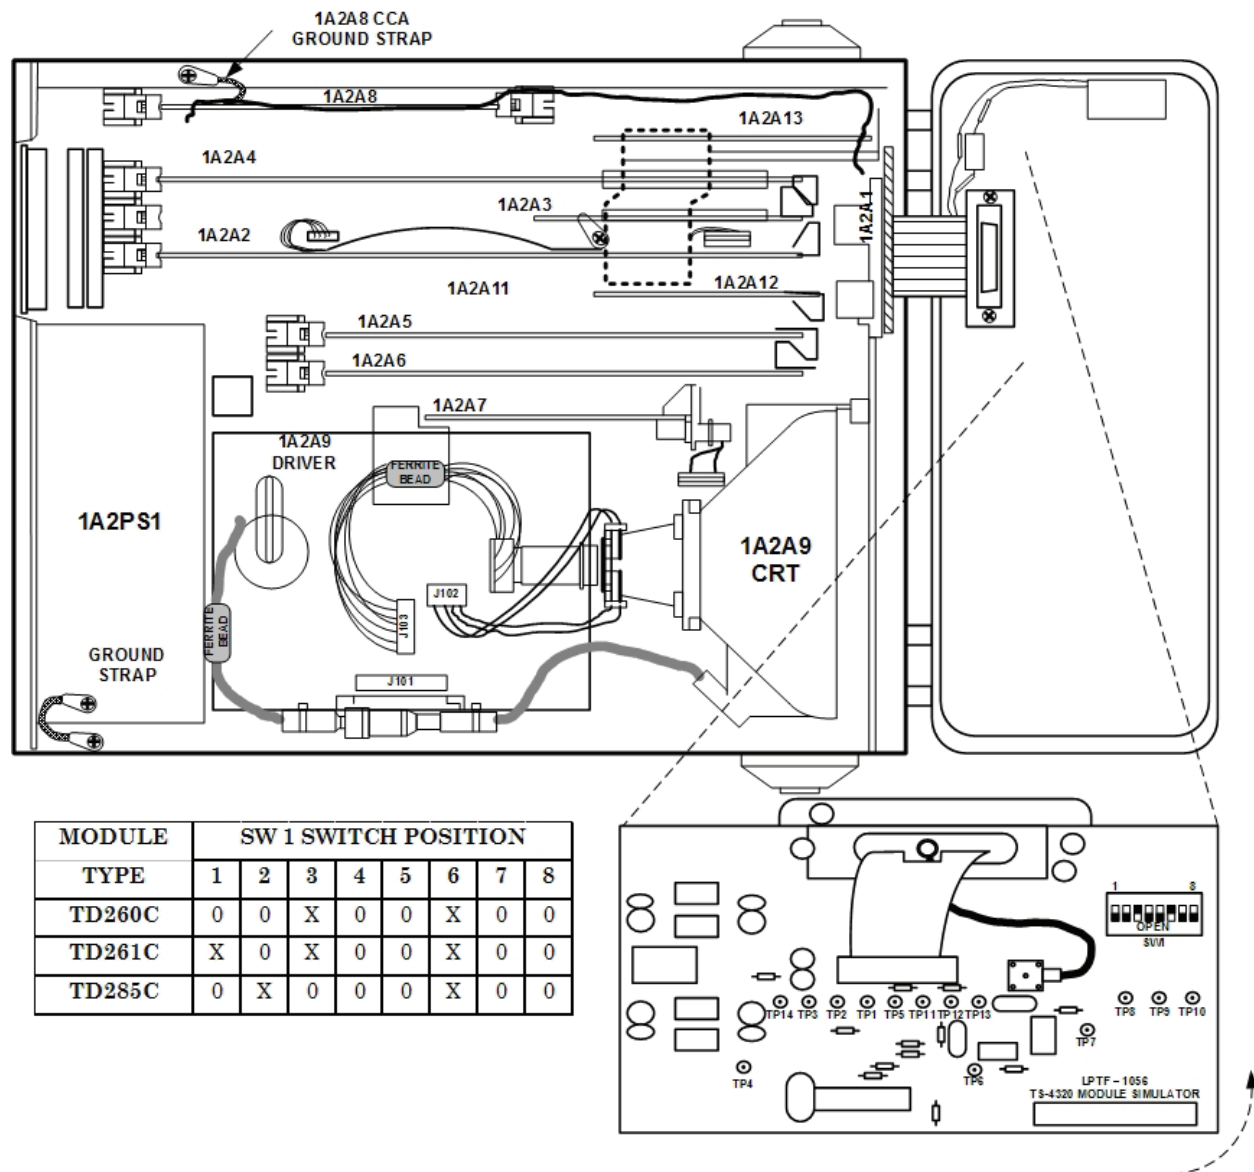
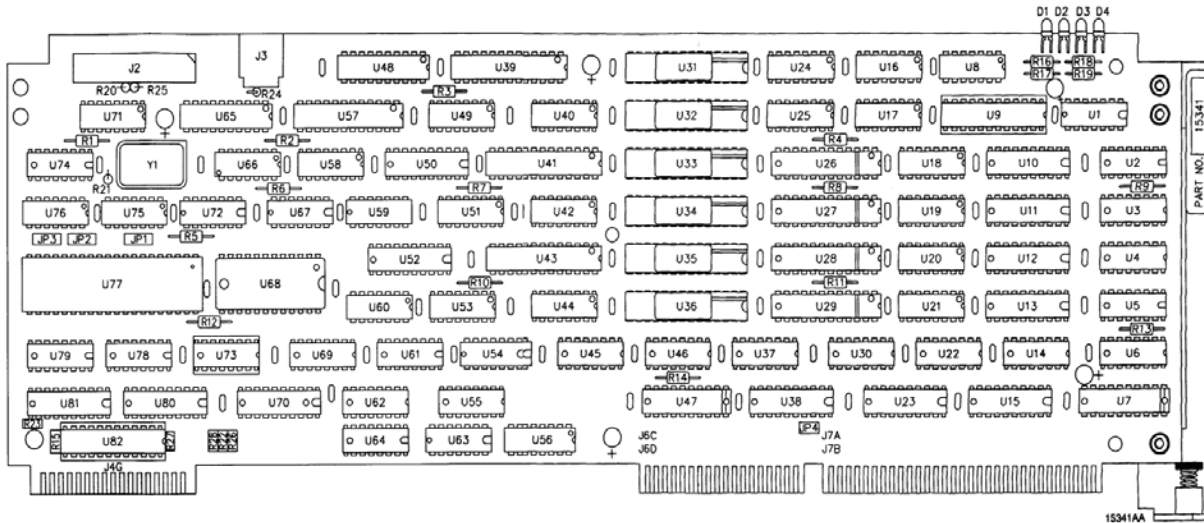
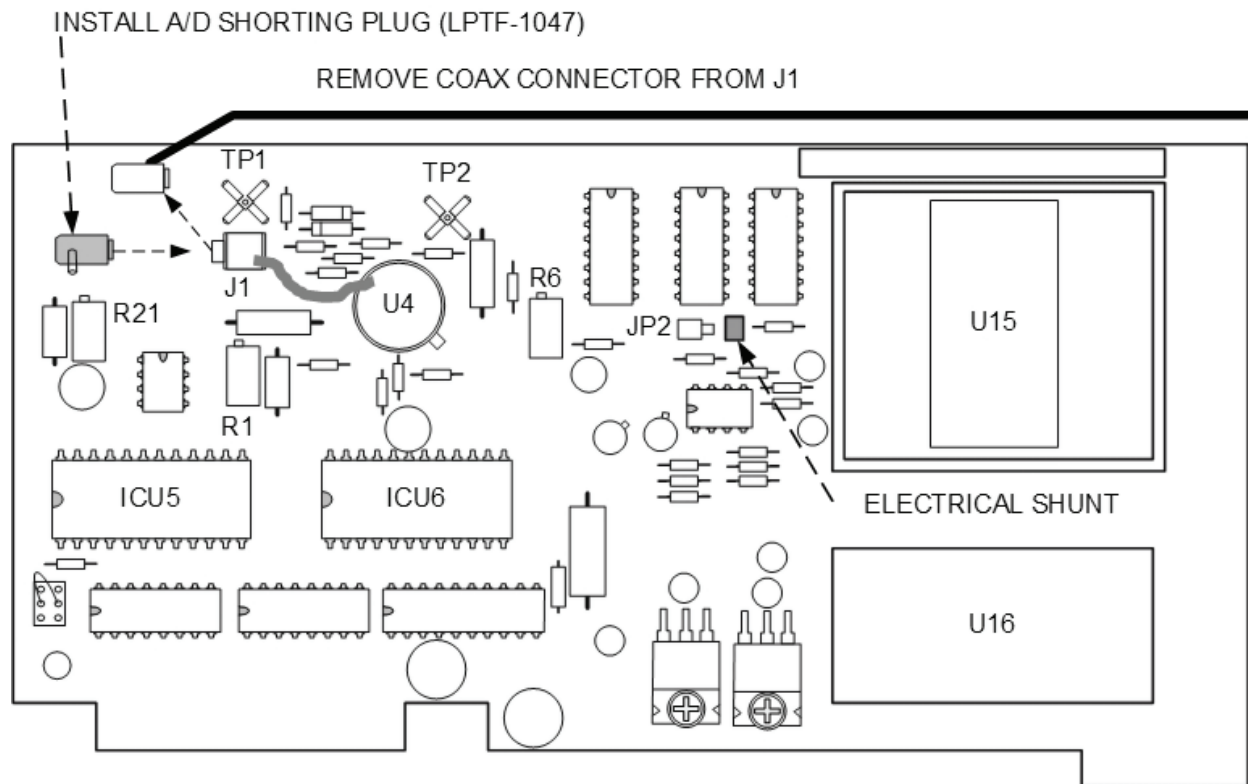

Figure 15. TS-4320(P)/G board locations and optical module simulator.
Figure 16. U71 location on DAS 1A2A4 circuit board.
Figure 17. A/D 1A2A8 - adjustment locations.
a. Perform (1) through (5) below:
(1) Set **ON-OFF** switch to **OFF**.
(2) Remove TI top cover.
(3) Connect frequency counter probe ground to GROUND STRAP A/D 1A2A8 (fig. 15).
- (5) Place frequency counter probe tip on solder side of DAS 1A2A4 circuit board at IC U71, pin 9 (fig. 16). Frequency will be between 24.99925 to 25.00075 MHz; if not, repair is indicated.
b. Perform (1) through (9) below:
- (1) Set **ON-OFF** switch to **OFF**.
- (2) Remove chassis screw anchoring **GROUND STRAP** at A/D 1A2A8 circuit board (fig. 15).
- (3) Remove electrical tie down straps if present.
- (4) Remove coax connector from J1 (fig. 17).
- (5) Remove A/D 1A2A8 circuit board (fig. 15).
- (6) Install A/D **SHORTING PLUG** (LPTF-1047) on J1 (fig. 17).
- (7) Install A/D extender card (LPTF-1048) into TI A/D 1A2A8 mother board connector.
- (8) Install A/D 1A2A8 circuit board on extender card.
- (9) Connect GROUNDING STRAP (fig. 15) to TI chassis using jumper wire.
- d. Connect multimeter negative lead to ICU6, pin 12, and positive lead to ICU6, pin 23 (fig. 17).
Multimeter negative lead may be connected to shield of TP1 (fig. 17) on A/D 1A2A8.
- f. Move multimeter positive lead to ICU5, pin 24 (fig. 17).
- g. Multimeter will indicate positive within ± 0.05 V dc of recorded value in e above; if not, adjust R6 (fig. 17) R).
- i. Connect multimeter negative lead to ICU6, pin 12 and positive lead to ICU5, pin 23 (fig. 17). Multimeter will indicate between +9 and +11 mV dc; if not, adjust R1 (fig. 17) (R).
- j. Perform (1) through (7) below:
- (2) Disconnect multimeter leads.
- (3) Install electrical shunt across JP2 (fig. 17).
Electrical shunt is currently on one of two pins on JP2 (fig. 17).
- (4) Remove A/D SHORTING PLUG (LPTF-1047) from J1 (fig. 17).
- (5) Install coax connector on J1 (A/D 1A2A8) (fig. 17) circuit board (observe caution).
- (6) Remove existing optical module from TI.
- (7) Install LPTF-1056 (TS-4320) MODULE SIMULATOR in TI optical module compartment (fig. 15).
- l. Connect multimeter negative lead to ICU6, pin 12 and positive lead to TP2 center post on A/D 1A2A8 circuit board (suggest making connections on solder side of A/D 1A2A8 (fig. 17)).
- m. Multimeter will indicate between 1.700 and 1.650 V dc, if not adjust R21 (fig. 17) (R).